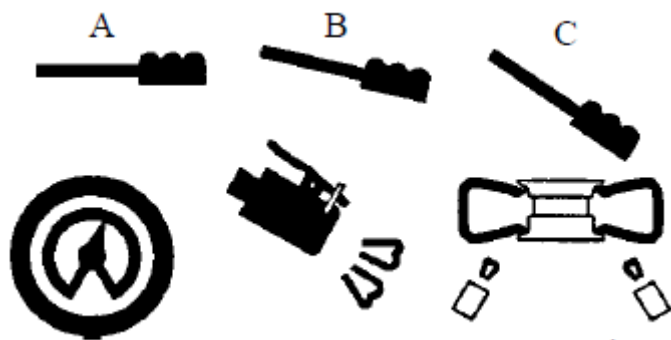

Fig 21
- Press the pedal down to intermediate position (B - Fig. 21).
- press pedal all the way down (C - Fig. 21). A strong jet of air will be released through the nozzles in the slides and this will help the bead seal.
- Release the tyre; set the pedal in the intermediate position (B - Fig. 21) and continue to inflate the tyre with short jets of air and constantly checking the pressure between air jets until the required pressure has been reached.